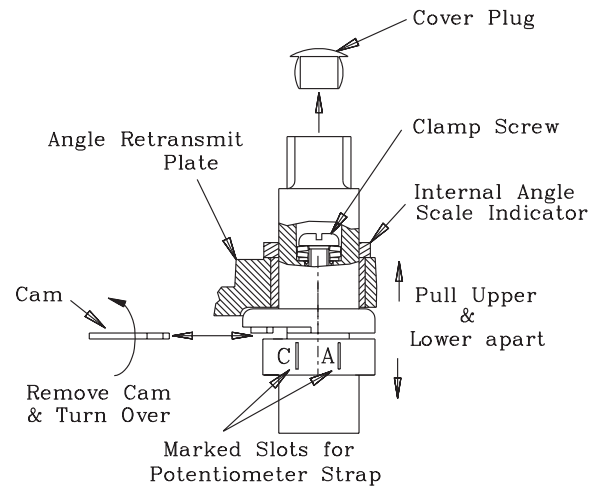

FIGURE 8. COUPLING
6.2.3 Release the potentiometer strap from the slot in the lower coupling, as shown in figure 8, remove the internal indicator from the coupling and withdraw the coupling from the retransmit plate.
6.4.3 Release the potentiometer strap from the slot in the lower coupling, as shown in figure 8, remove the internal indicator from the coupling and withdraw the coupling from the retransmit plate.